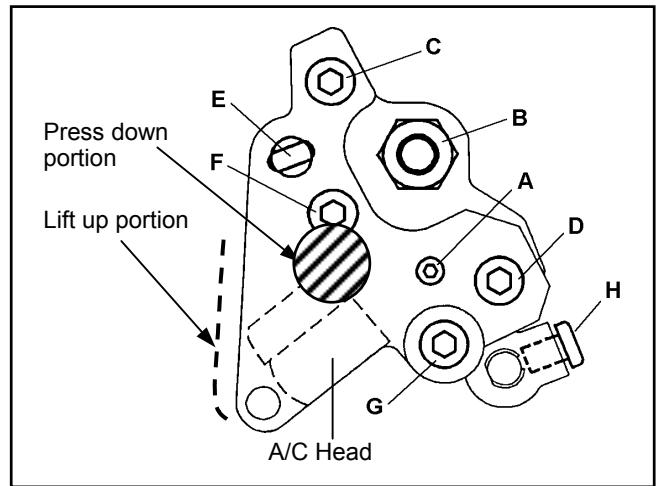

Figure 1-16-3
1. Press and Lift up A/C Head lightly as indicated in figure1-16-3, then confirm that the CTL and CUE output level is within the specification.
3. Confirmation of the level have to be done after the screw (H) is tighten completely. (refer to 1-16.A/C Head Adjustment Method)